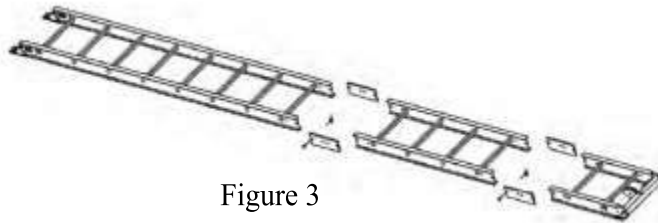

Figure 3
- Splice the ladder sections together using the connection brackets. The connection brackets should be placed on the " outside" of the ladder section See Figure 3